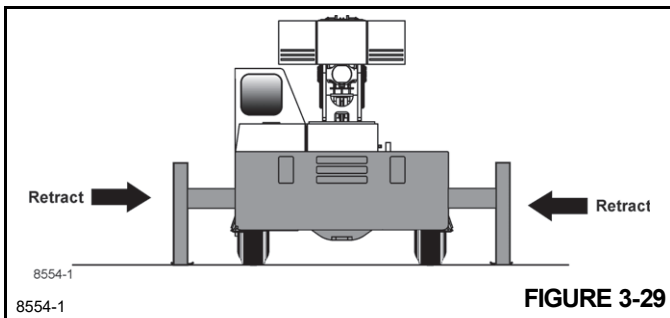

FIGURE 3-29
3. Push the bottom of the Extend/Retract Switch (2).
4. Press the accelerator pedal to increase the engine speed, which will accelerate the inward movement of the outriggers (Figure 3-29). Release the accelerator pedal and the switch when the outriggers are fully retracted.